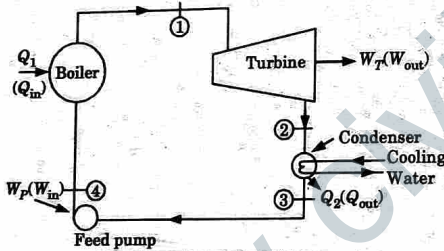

Fig. 1.25.1. Rankine cycle.
2. The Rankine cycle is shown in Fig. 1.25.1. It consists of following processes :